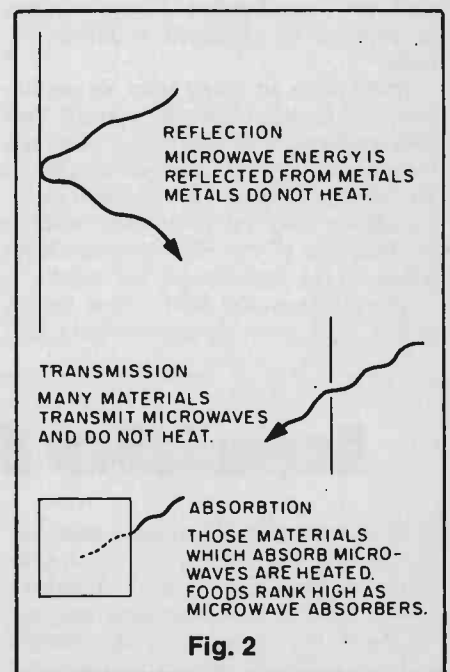

Fig. 2
**Microwave Properties.** So far two characteristics of properties of microwave energy have been mentioned: absorption and transmission. Like light waves, microwave energy is also reflected. See Fig. 2. Metals reflect microwaves, and since there is no absorption, metals *do not heat*. Many materials in addition to glass transmit microwaves, and again, since there is no absorption, there is no heating. Paper, china, and some plastics transmit microwaves and are therefore likely candidate materials for utensils for use in microwave ovens. The overall result is that foods can be cooked or heated in an oven on utensils which are relatively cool to the touch. Hopefully, no more burnt fingers.